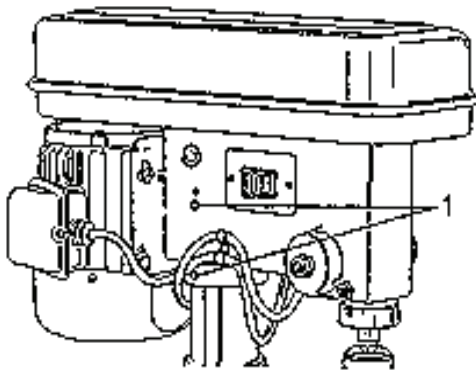

Fig. 9
2. The column fits in the drill mounting hole. Make sure that the mounting hole is seated on the column. Align the drill head with the bench and the base plate and tighten the two setscrews using a hex wrench. (Fig. 9)